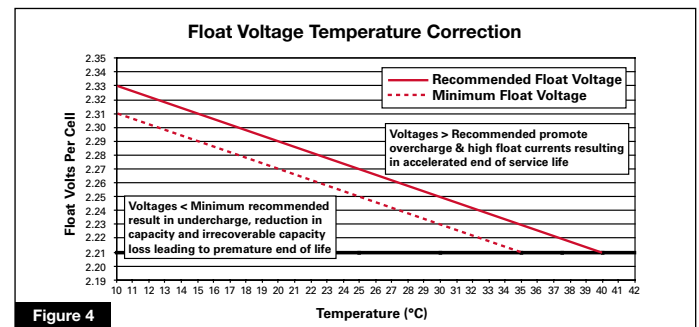

Figure 4
- 2.29Vpc -4mV per cell per °C above 20°C (refer to figure 4 for further details)